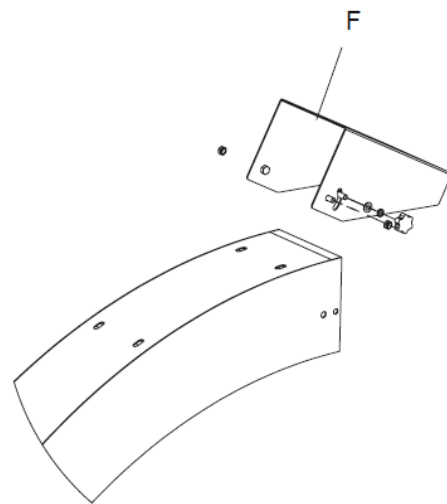

figure 3
Install the direction plate (F) with the chute with a screw nut and a bolt. The knob can be used to adjust the discharge direction without a tool. See figure 3.